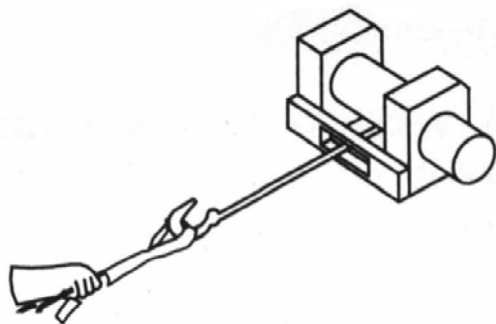

Figure 8
**Warning:** Always use the handsaver (Figure 8). Do not hold the hook with your hand. This is important not only when reeling wire rope in but also when removing wire rope from the winch under power.